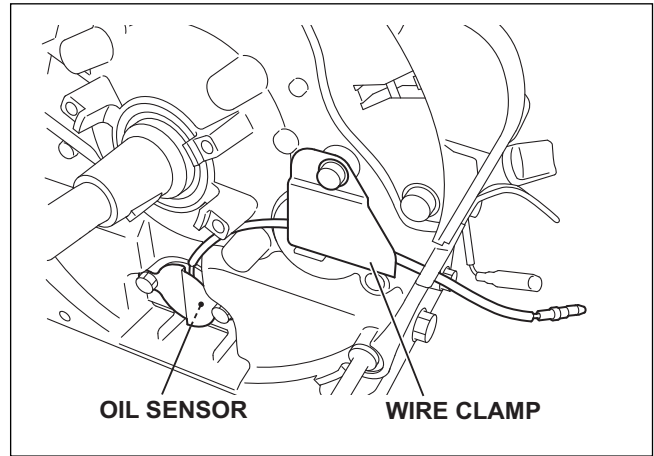

Fig.5-28
| 29 | [MODEL WITH OIL SENSOR TYPE] Oil sensor | (1) Remove the clamp.[Model without charge coil type] (See Fig. 5-28) (2) Remove the oil sensor from the crankcase. | M6 x 10mm : 1 pc. M6 x 16mm : 2 pcs. |